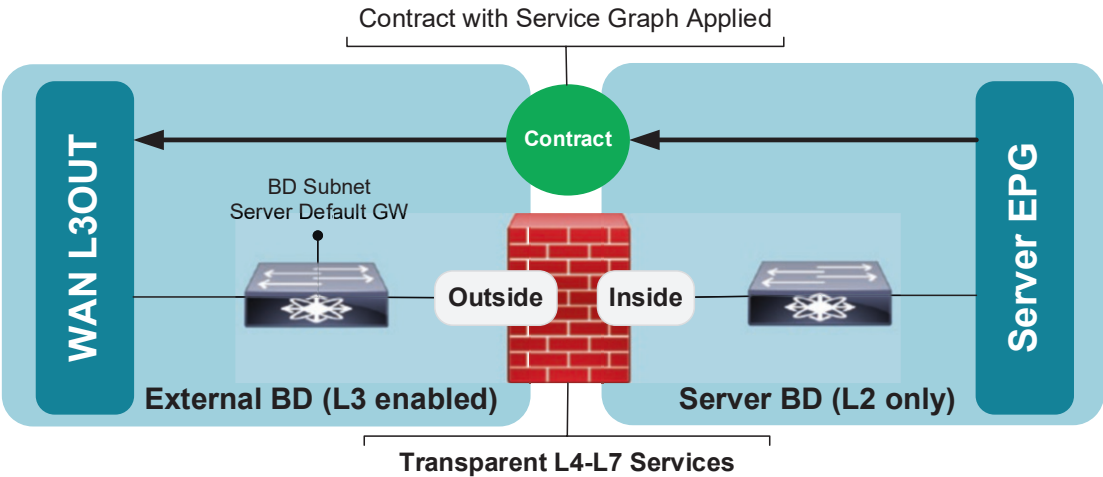

Figure 8-8. Transparent L4-L7 node with L3 routing in the external ACI BD
- b. **Transparent Mode with L3 Routing on External BD:** The routing for server endpoints is handled by ACI in the external BD (via its subnet SVI interface). Because the external BD is L3 enabled, ACI will need L3OUT to ensure external routing and a contract with a service graph is therefore applied between the server EPG and the L3OUT ExtEPG (as shown in Figure 8-8).